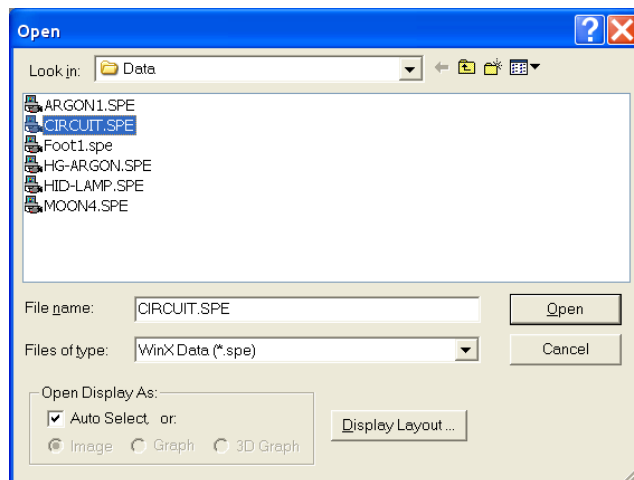

Figure 38. Open dialog
1. From the **File** menu, select **Open**. The **Open** dialog (Figure 38) will appear, allowing you to select the image to be opened. The **Look-In** field provides a browser function so you can easily find the directory where the images. By default, the data directory will be a subdirectory of the directory where WinView/32 was installed. Subdirectory names and the filenames of all files of the specified type (the WinView/32 data type is \*.spe) in the current directory are listed in the box below the directory name.